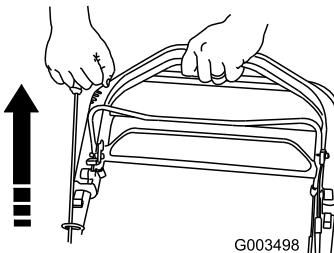

Figure 17
- Pull the recoil starter (Figure 17).